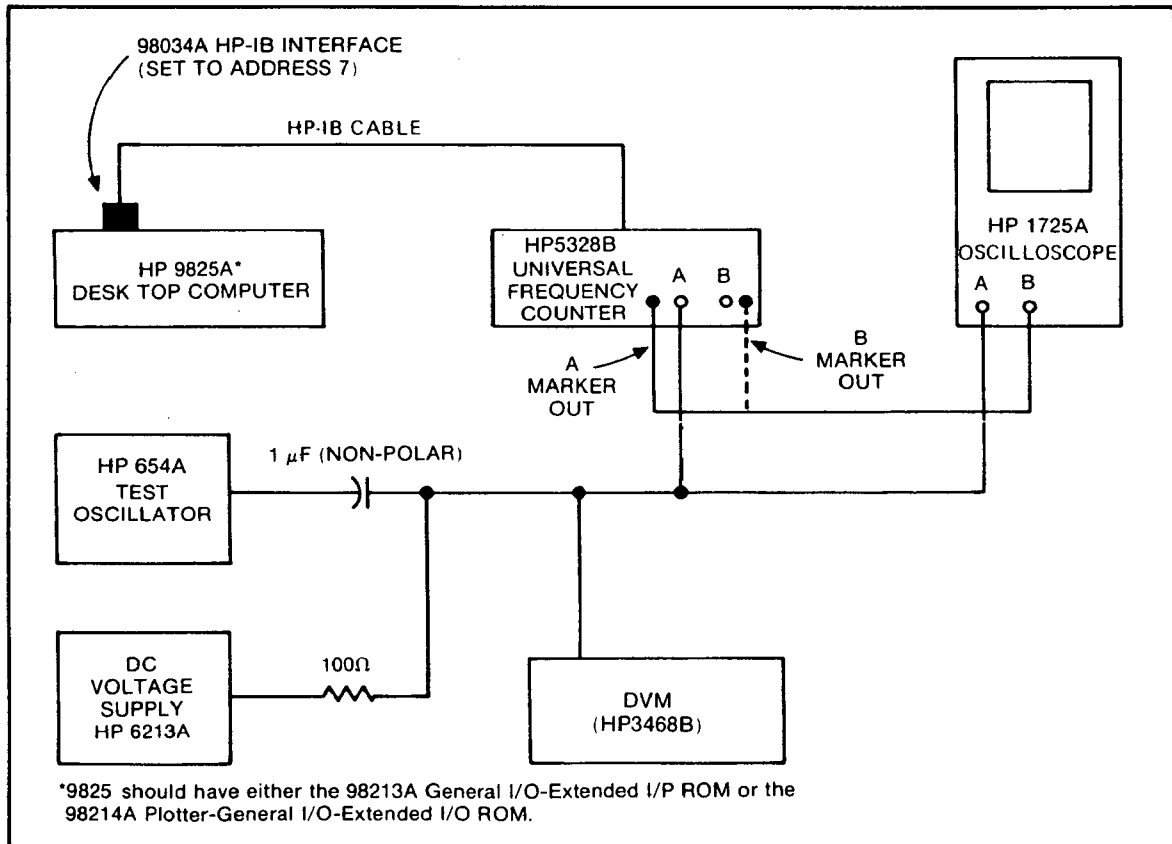
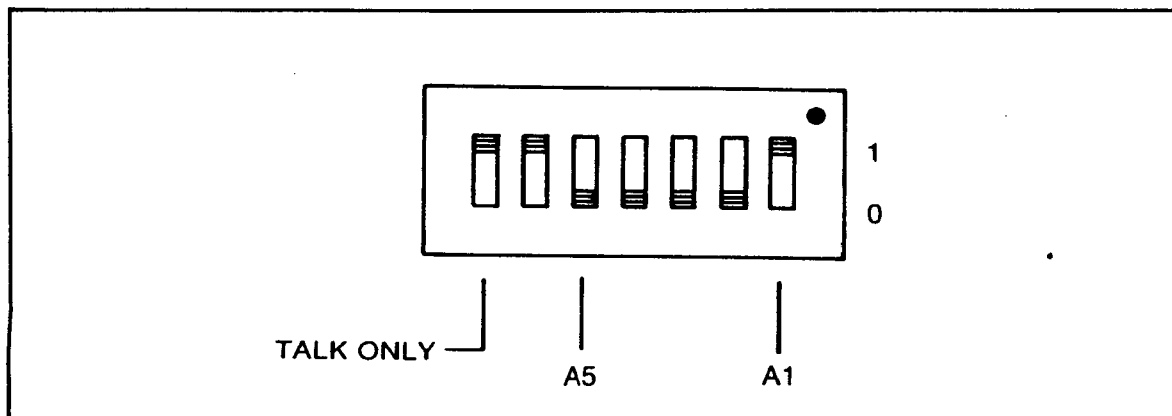

Figure 5-6. Test Setup for DAC Adjustment
Figure 5-7. Address Switches
Set up the equipment as shown in Figure 5-6. Set the rear panel address switches on the HP5328B as shown in Figure 5-7.
- c. Connect the power supply as in *Figure 5-6* and adjust for a dc level of 2.50 volts (± 2 mV) as read on the DVM.